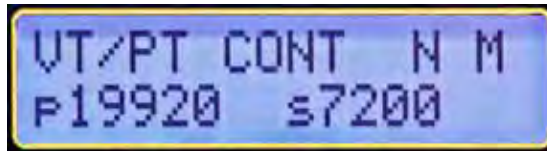

Figure 5-1
- The instrument rests at the Main Screen which displays Test Type, Test Mode, Filter, Storage Mode and the present Nameplate values (Fig. 5-1)